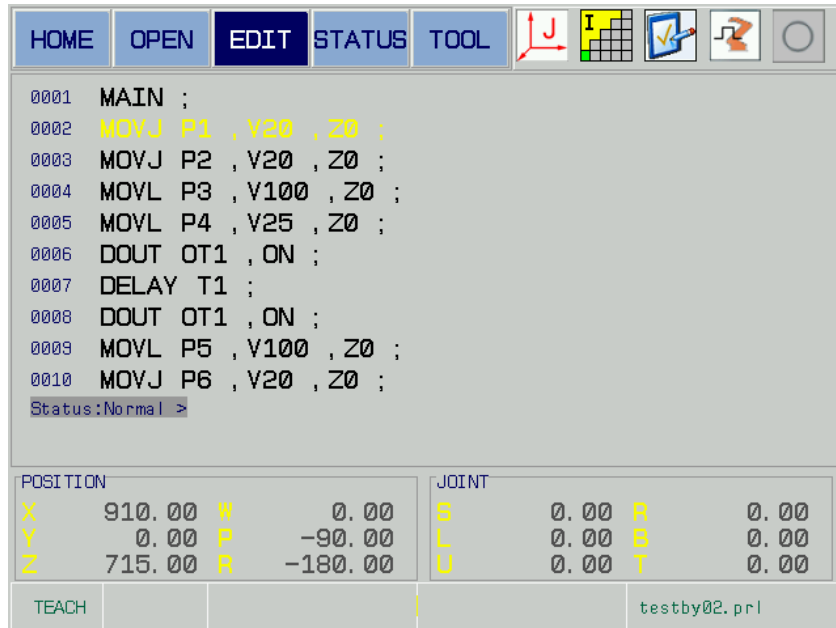

Fig. 5-35
The Fig. 5-35 is regarded as an example; it is supposed that if the MOVJ movement command at the 2nd line will be deleted, the operation steps are shown below:
1. Open the program "testby02.prl", then enter the program display page, shift to the edit method by [F3], and then move the cursor to the 2nd line program position by up/down direction button; refer to Fig. 5-35.